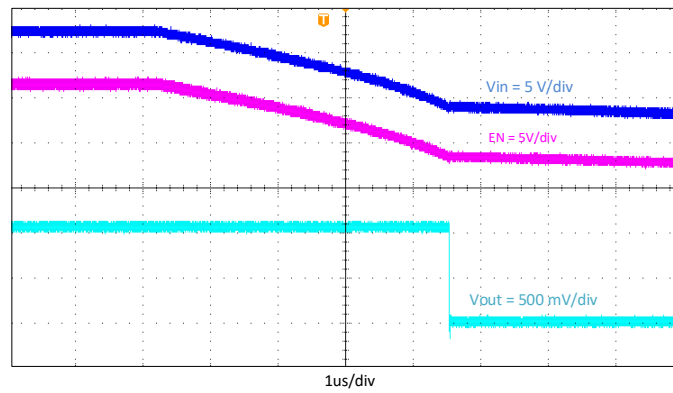

**Figure 4-11. TPS562207EVM Start-Up Relative to EN**
The TPS562207EVM start-up waveform relative to enable (EN) is shown in Figure 4-11. Load = 2 A.